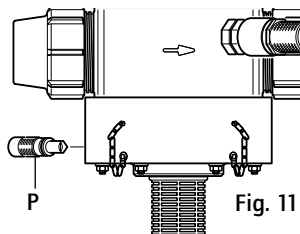

Fig. 11
- Also unscrew the bleed screw (Fig. 11-P), remove it and let the water flow out.